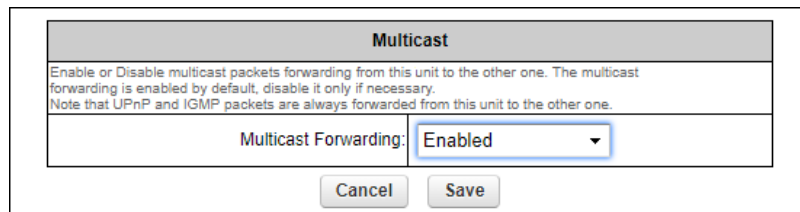

Figure 38. Multicast dialog (Bridge mode)
2. Click the **-multicast** link under **ADVANCED SETTINGS** in the left-hand settings menu (Figure 38 \(page 102\)).